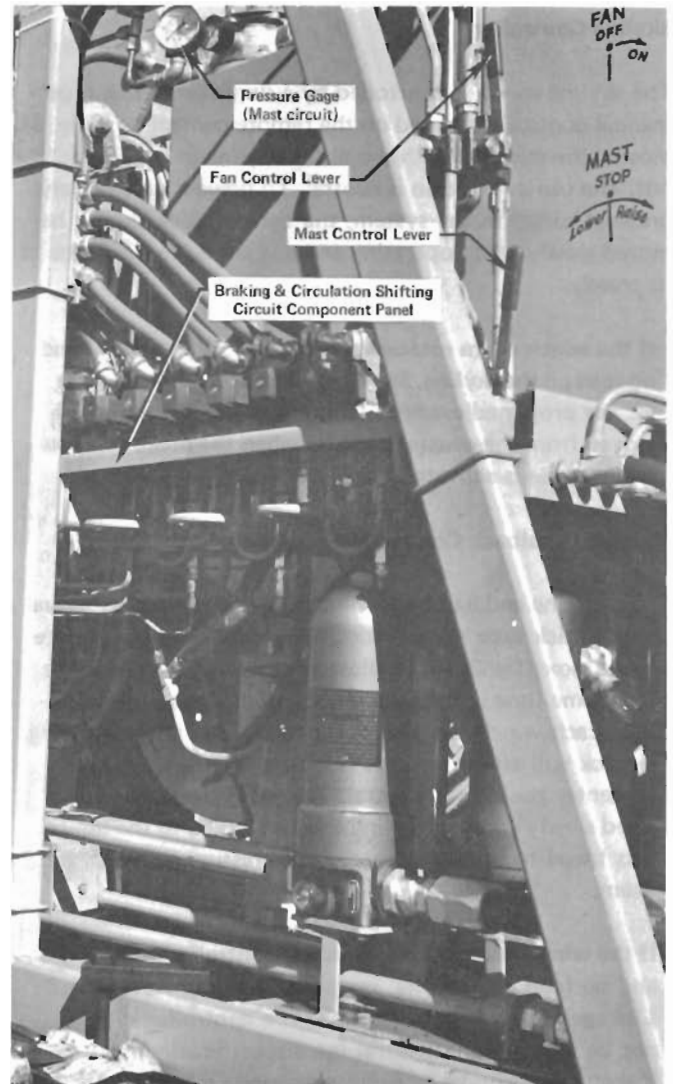

Figure 4.—Fan and mast controls.
The hydraulic oil cooler fan control is a lever-operated directional valve located next to the oil reservoir (fig. 4). Normally the cooler fan should be turned on when the oil temperature reaches approximately 140° F. The temperature gage is on the side of the hydraulic reservoir.
A lever-operated directional control valve located near the hydraulic oil reservoir is used to raise and lower the mast (fig. 4). It is a three-position valve. The center position is the stop position. Moving the lever from the center position either raises or lowers the mast. The mast can be stopped in any position by moving the lever to the center "stop" position. A pressure gage is located in the mast/raising and lowering circuit (fig. 4). The pressure required to raise the mast is approximately 2,000 to 2,500 psi. **Note:** This directional valve is a spring centering type. However, under the high pressure generated when raising or lowering the mast, it must be manually moved to the stop position. This is especially important when the mast reaches the limits of its travel in either the up or down position. If it is not immediately moved to the stop position, it will cause undue stress in the raising/lowering mechanism.
6. Slowly move the handle of the mast directional valve (fig. 4) to the "raise" position.